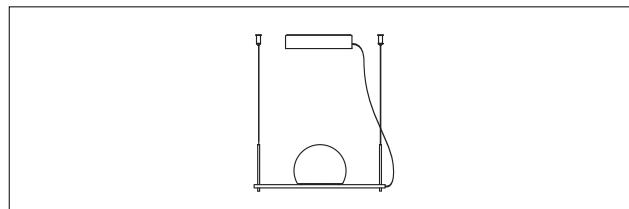
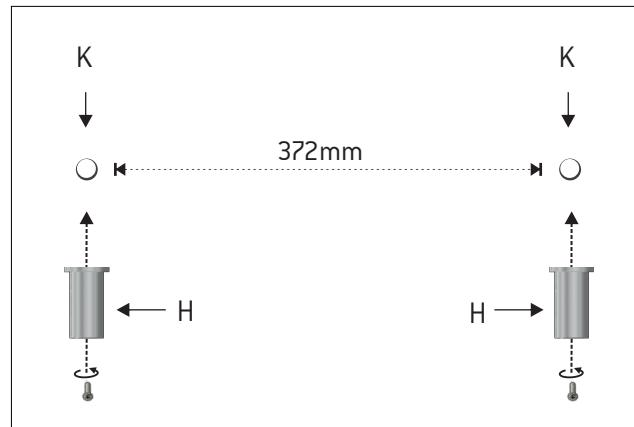
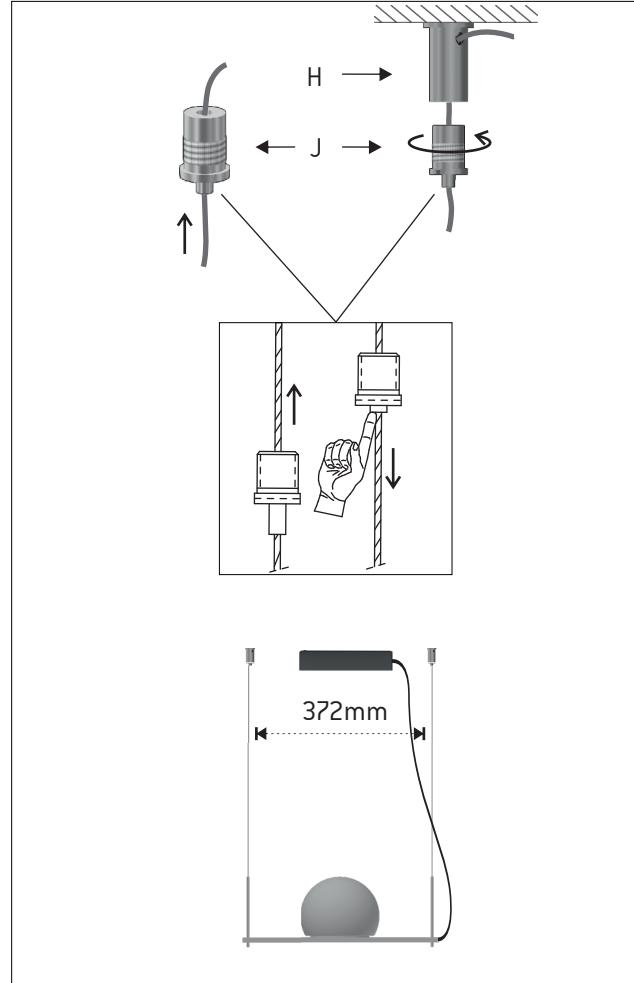

Figure 1A
Figure 5
Figure 6
- To be mounted facing up (figure 1A) go directly to step 5 (figure 5)
- 5 - Mark one spot (K) on the ceiling at a distance of 372mm between them and fix the tensors (H) in the mark. Figure 5. (See figure 6 to see the result)
- 6 - Insert the steel cables into the gripper supports (J) and then insert them through the side hole of the tensors (H). Again screw the gripper support to the tensor and adjust the cable to the desired length. Figure 6